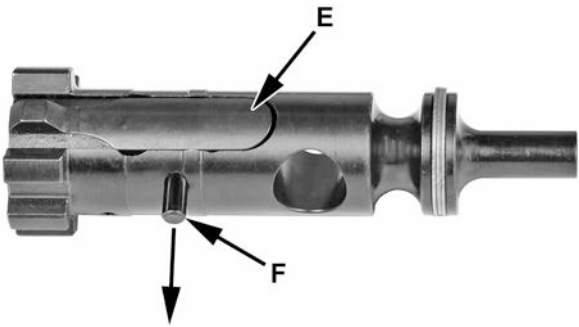

Figure 34
7. Push in on the rear (E) of the extractor. If the extractor does not spring back, remove the extractor from the bolt for cleaning. Push extractor pin (F) out to remove extractor. See figure 34.